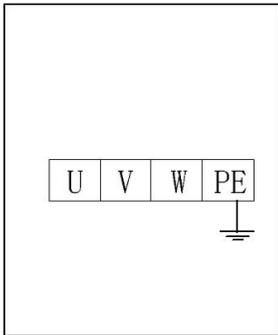

Fig. 10
- Connection of power line: Connect the 380V three-phase four-wire power line (cable of  $3 \times 2.5 \text{MM}^2 + 1 \times 1.5 \text{MM}^2$ ) to the control cabinet interfaces U, V, W and input terminal, and connect the PE grounding wire to the labeled grounding bolt firstly and then to the labeled grounding bolts at the bottom of the two platforms (Fig. 10, 11)